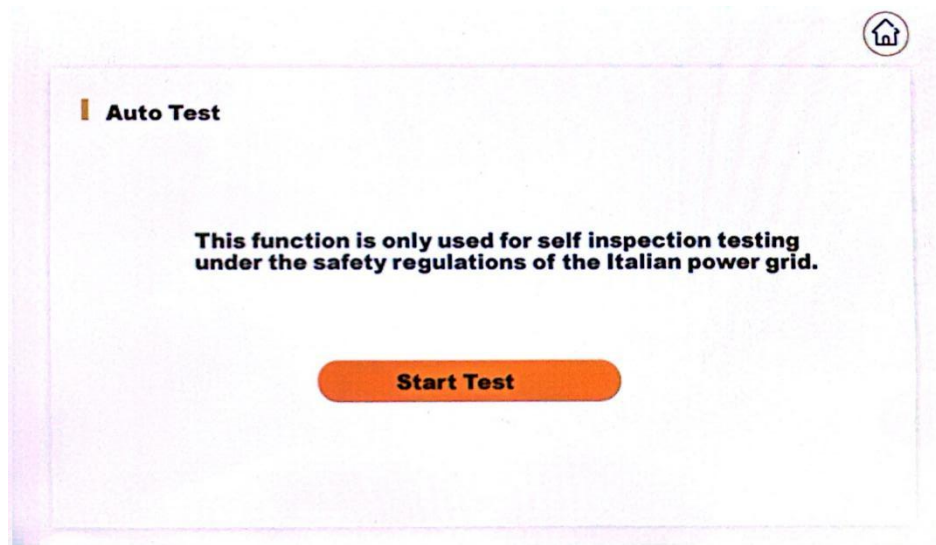

Figure 10-3
3. Enter the Italy self-test interface and click Start test, as shown in Figure 10-3: